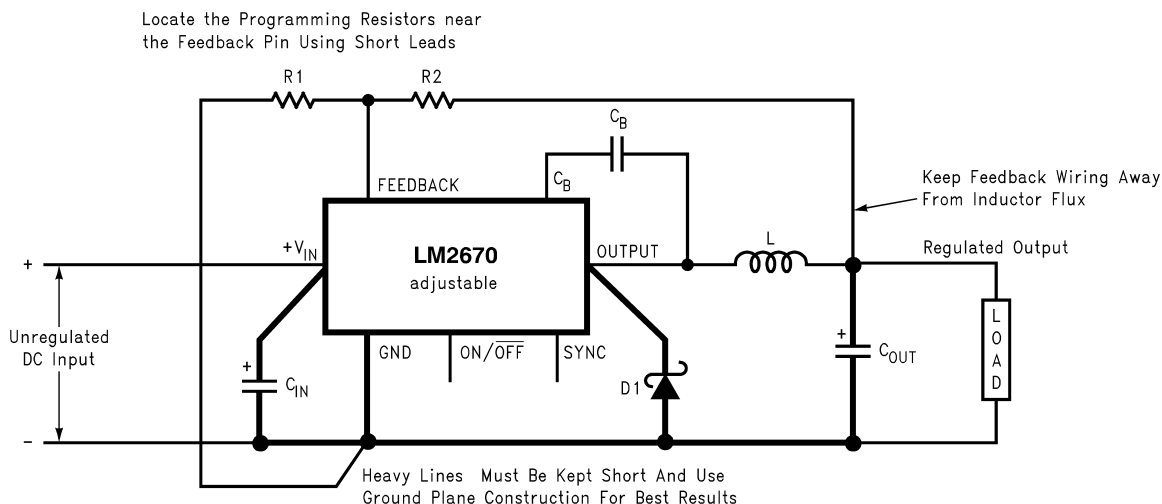

Figure 20. Basic Circuit for Adjustable Output Voltage Applications
**Step 2:** Select an LM2670S-ADJ. To set the output voltage to 14.9V two resistors need to be chosen (R1 and R2 in Figure 20). For the adjustable device the output voltage is set by the following relationship: